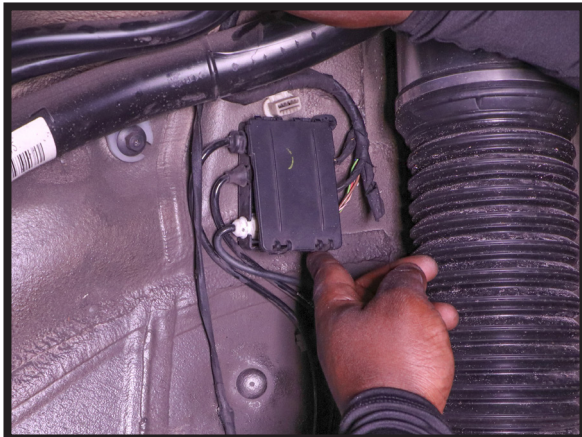

FIGURE 9
8. DISCONNECT THE STRUT'S ELECTRICAL CONNECTION. (FIGURES 9, 10, 11)